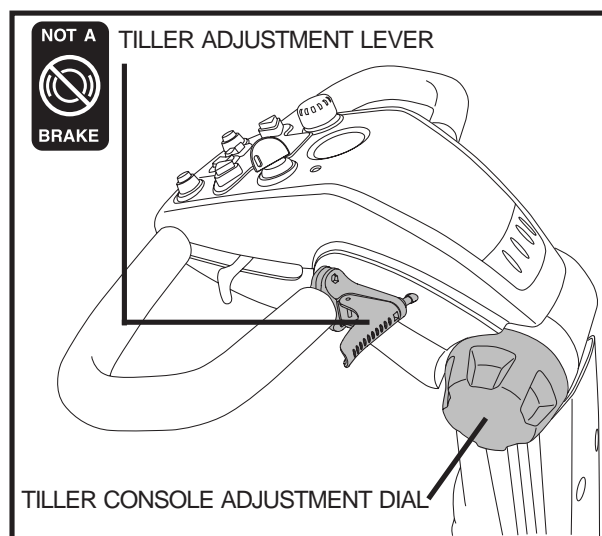

Figure 14. Tiller/Tiller Console Adjustment
1. Squeeze the tiller adjustment lever. See figure 14.
1. Loosen the adjustment dial (turn anticlockwise) and move the tiller console up or down to a comfortable riding position. See figure 14.